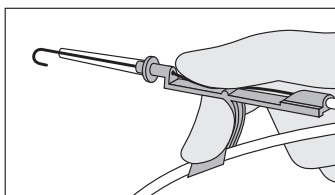

Fig. 1
- Using thumb, straighten the "J" by retracting guidewire into Arrow Advancer™ (refer to Figs. 1 and 2).